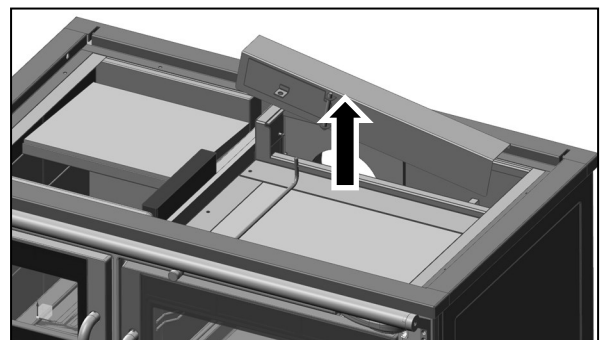

FIG. 23
3. The access cover to the chimney is removed together with the draught valve upwards (figure 23).